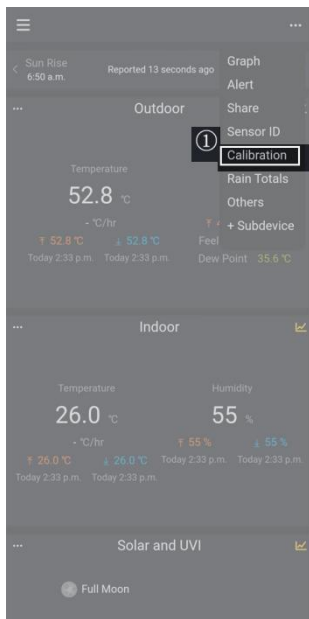

Figure 8
4. For a certain parameter (Use "Wind Gain" as an illustration in Figure 8). Calculate the offset or gain based on data from reference and ecowitt sensor.